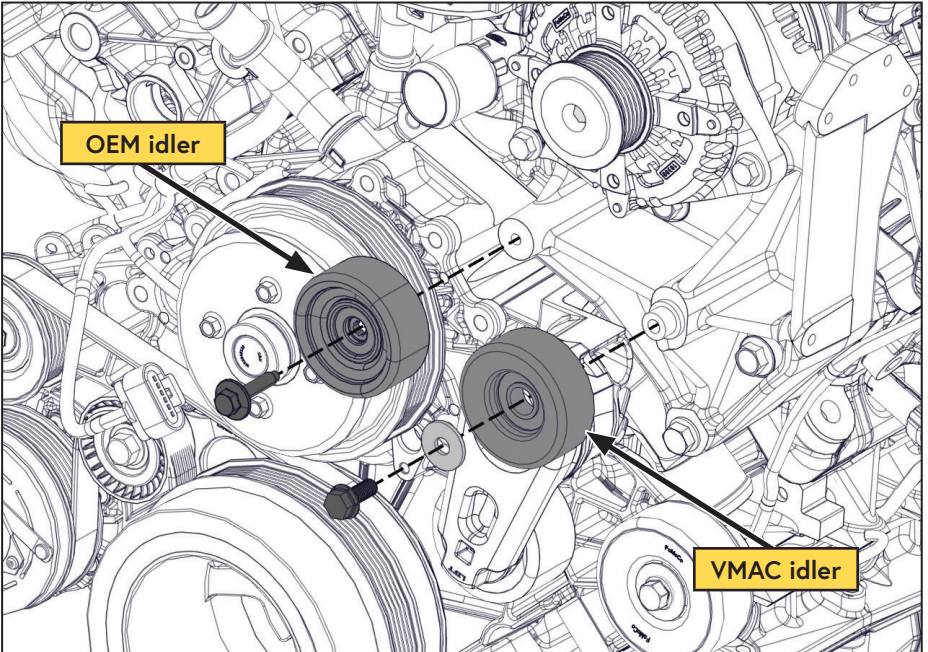

Figure 8 — Install idlers
- Install the OEM, and supplied idlers (Figure 8).